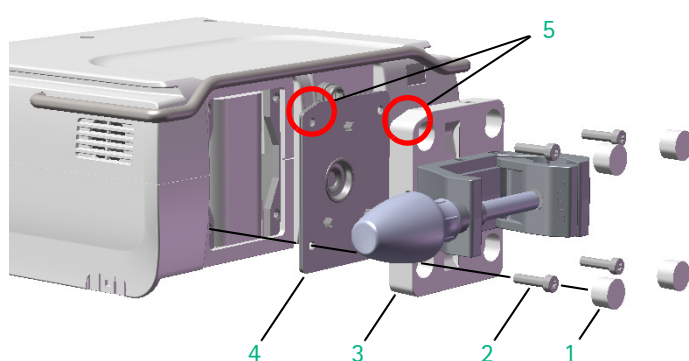

Fig. 3 - 5
2. Check for correct seating of the membrane gasket (see Fig. 3 - 4).